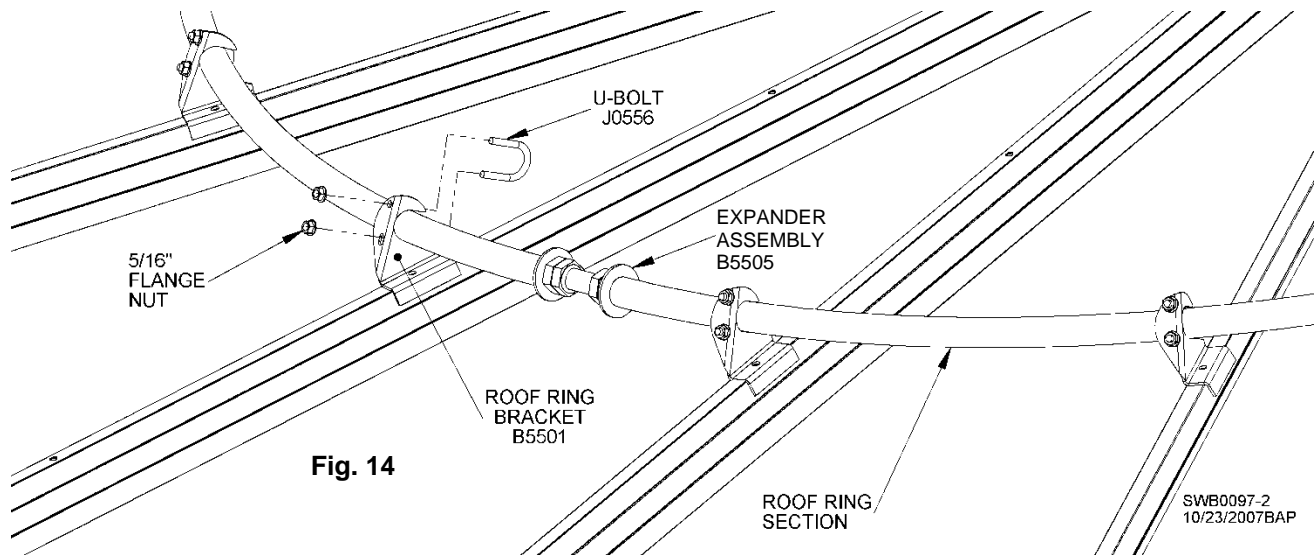
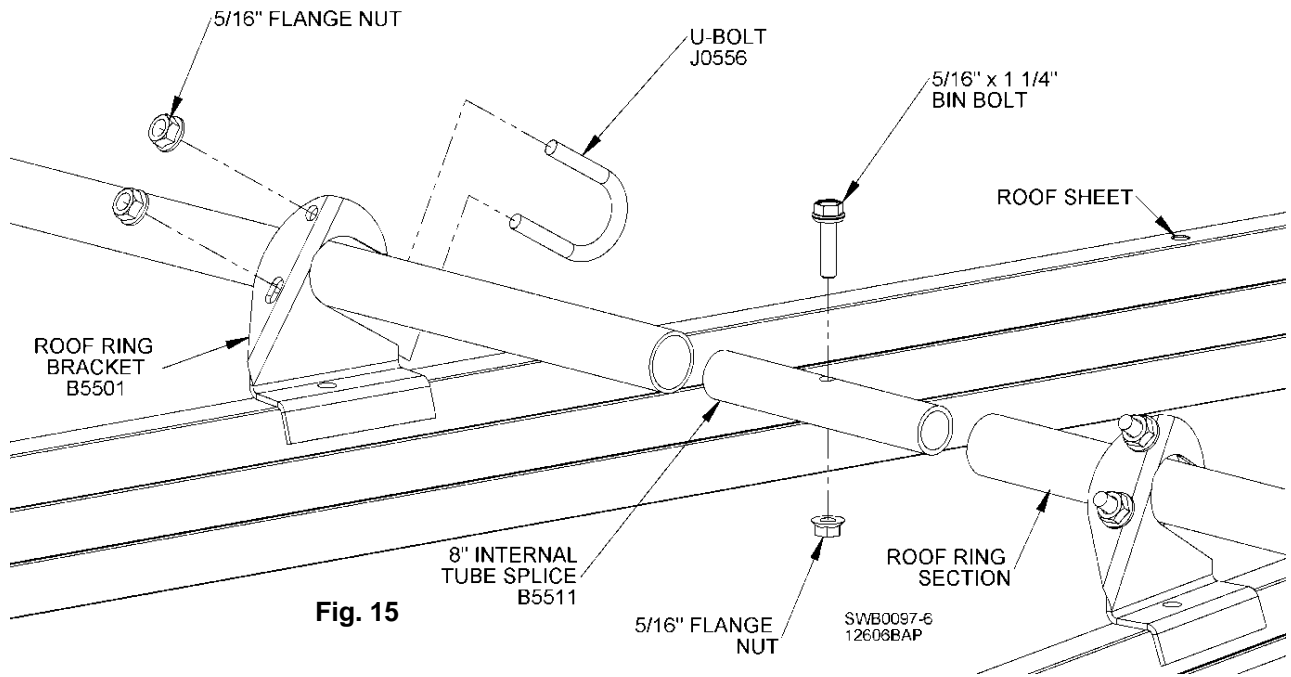
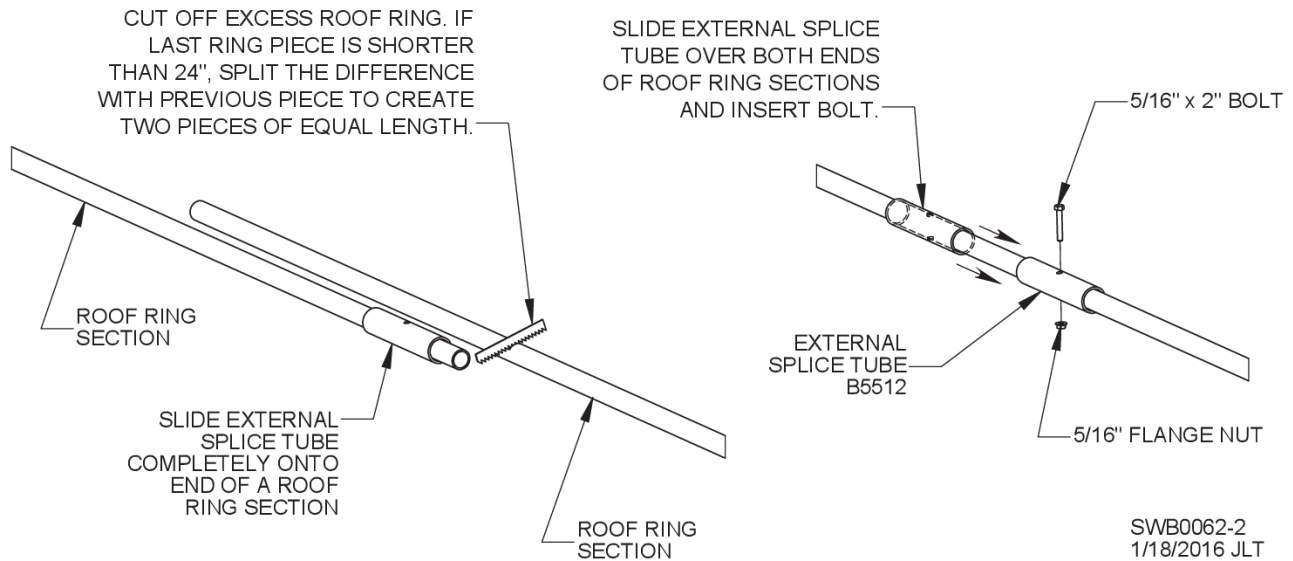

Fig. 14
Fig. 15
Fig. 16
Roof ring brackets and roof ladder rungs are attached to roof sheets using 5/16 x 1-1/4" bin bolts, 5/16" flange nuts, and neoprene washers. See Fig. 10. Washers slip onto bolts that have been inserted through roof ladder rungs and will be compressed between roof sheet rib and roof ladder rung to ensure watertight seal. See Fig. 10. Roof ring bracket, roof ring, and U-bolt assemblies are shown in Figs. 14 and 15.
Pre-assemble expander assemblies (1 x 10" threaded rod, 1" nuts and 1" washers) before installing ring. Run all four (4) 1" nuts to center of each threaded expansion rod. Position washers outside of nuts. Nuts and washers will later be run outward after all sections of ring have been assembled. See Fig. 14.
Place first expander assembly near roof ladder. Center first ring section on roof ladder sheet. Evenly space remaining expanders around roof ring as ring sections are placed into bent roof ring brackets. Install internal tube splices (B5511) at all other locations except last one, where an external splice tube will be used. Fig. 15 shows 8" internal tube splice using a 5/16 x 1-1/4" bin bolt as a stopper. Fig. 16 shows 8" external splice tube (B5512) using 5/16 x 2" bolt. Place 5/16" U-bolts on all roof ring mounting brackets. See Figs. 14 and 15. Do not tighten U-bolt flange nuts until later after roof has been crowned.
External splice tube will be installed after all other splices and expanders are in place and ring sections are trimmed. If final section of roof ring will be less than 24" long, split the difference with previously assembled roof ring section and create two sections of equal length. See Fig. 16. Ensure there is a 3/8" gap between ring sections for bolt that will be inserted. It may be necessary to deburr cut edges.